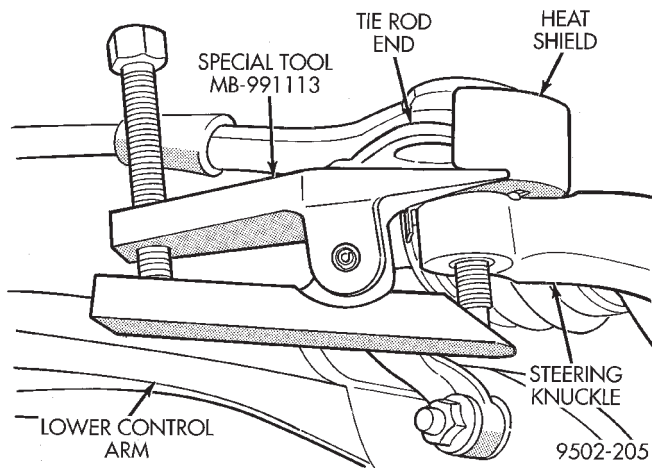

Fig. 65 Tie Rod End Removal From Steering Knuckle
(10) Remove the tie rod end from the steering knuckle arm, using Remover, Special Tool MB-991113 (Fig. 65).